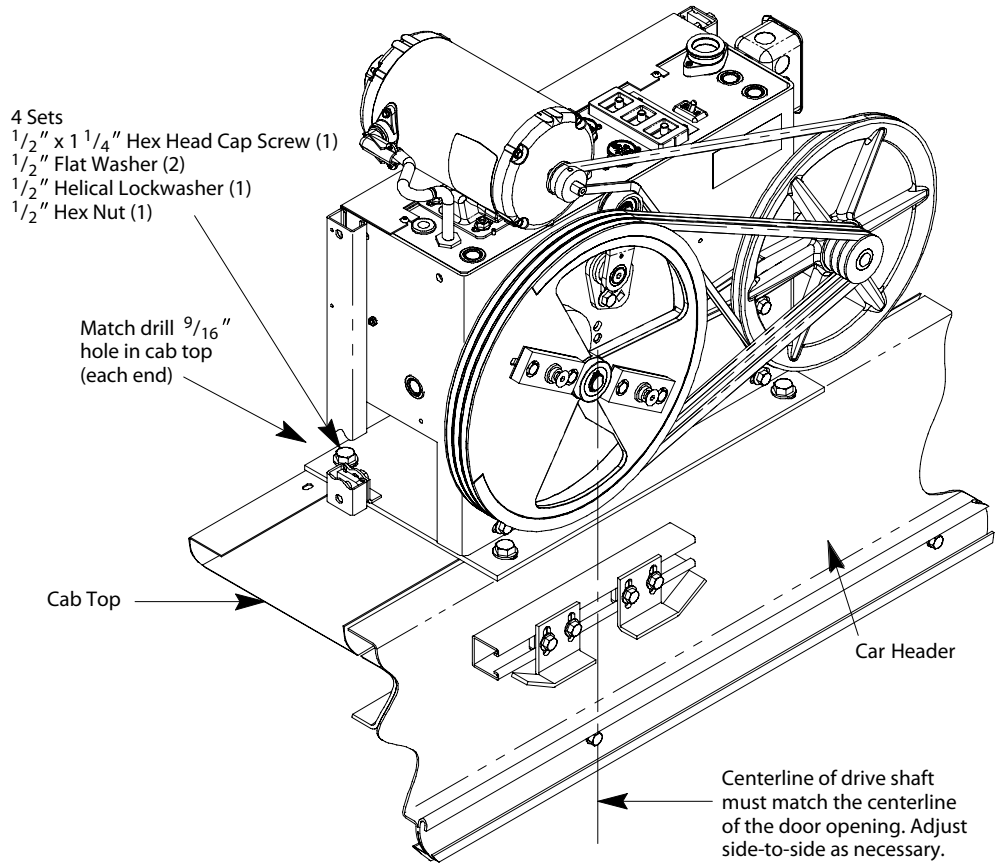

Figure 9 - Mounting the Door Operator (1 of 3)
3. Center the front slots of the mounting base with the slots in the middle of the car header. Install two sets of mounting hardware, and loosely tighten. See Figure 9 on page 104.
5. Match the vertical center line of the drive shaft with the center line of the door opening by adjusting the door operator sideways. Tighten the front mounting hardware. See Figure 9 on page 104 and Figure 11 on page 106.
14. Match drill 9/16 holes in the car top with the slots in the door operator mounting base. See Figure 9.